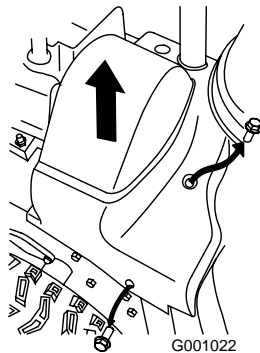

Figure 46
2. Lift up the right side of the belt cover (Figure 46).